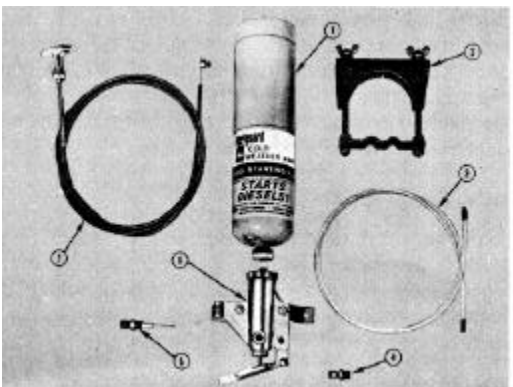

Fig. 1-11 (OM1007L). Manually operated valve
The manually operated valve, illustrated in Fig. 1-11 includes the valve body assembly (6), clamp (2) and nylon tube (3). The fuel cylinder (1), atomizer fitting (5) and pull control (7) must be ordered separately. Standard pull or throttle control cables may be used, to actuate the manual valve, if desired.